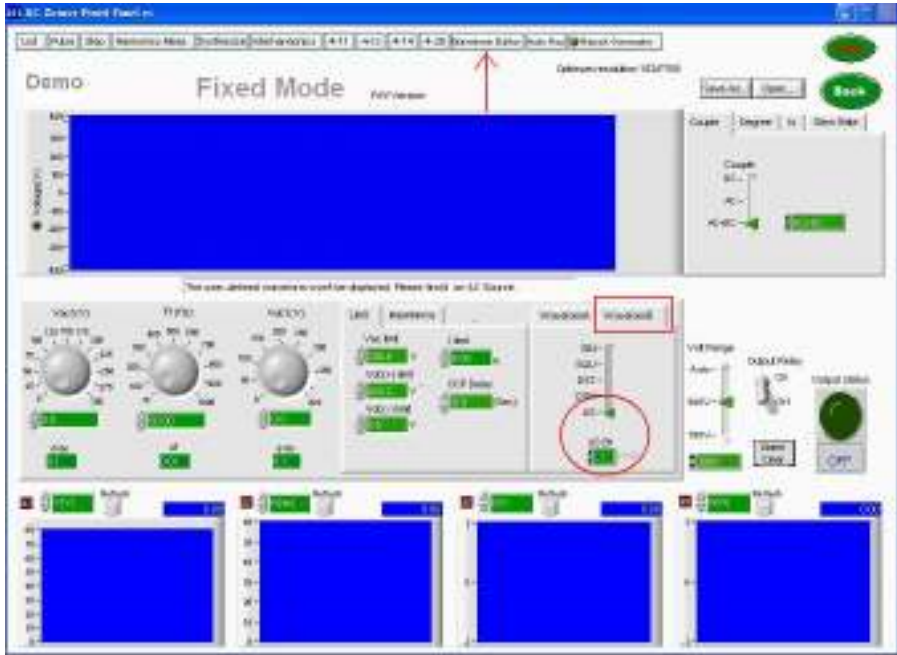
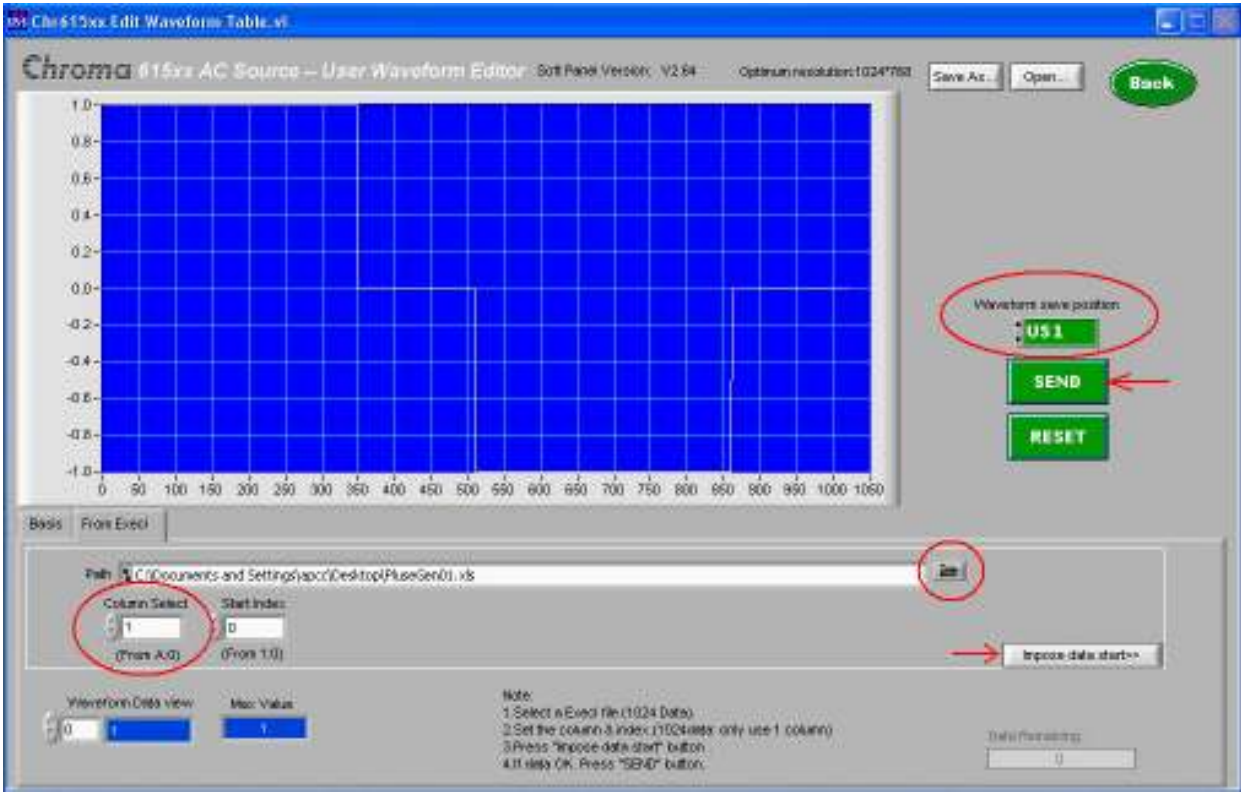

Figure 4
Figure 5-2
4. AC source softpanel as Figure 4, click **WaveformB** and select US waveform **US B1 1**, then go into **Waveform Editor** for user waveform edit function.
Figure 5-2 shows User Waveform Editor, to choose US1 as waveform save position which same with Waveform B at figure 4. Then click choose the path of PluseGen01.xls file
Back to last screen as figure 4 then choose Waveform B US1 and Vac output voltage 100V/110V/220V, be careful of frequency setting that must be same as PluseGen01.xls setting.